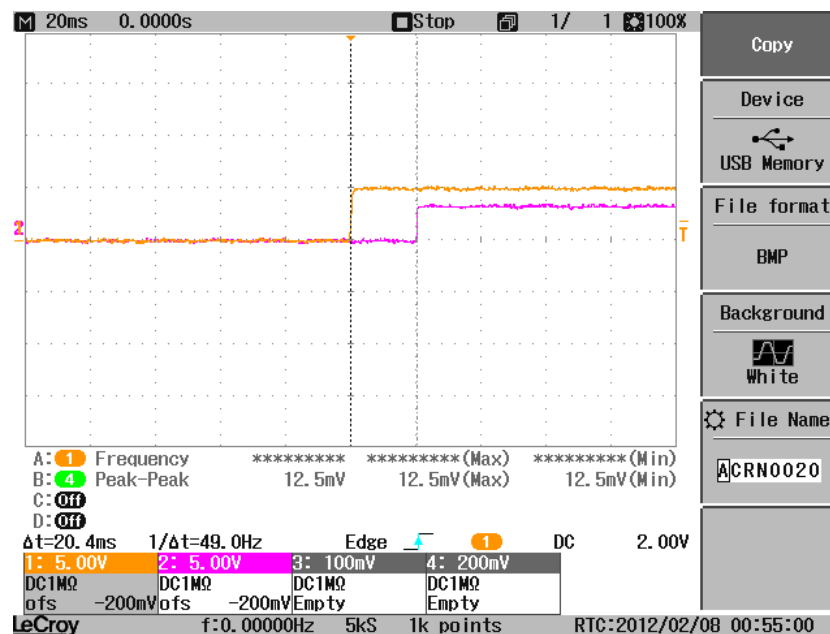

Figure 7. 5V and 3.3V Rails With 20ms Delay Capture
9. Figure 7 shows the oscilloscope capture of the 5V and 3.3V rails sequencing with a delay of 10 ms.